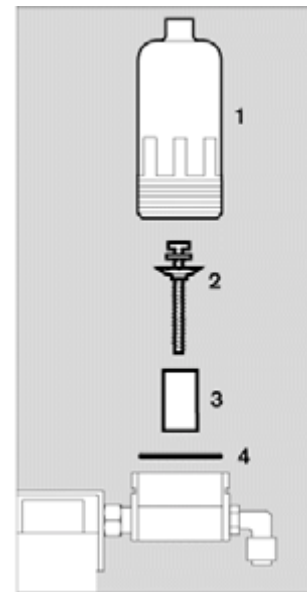

Fig. 9 Replacing the filter sleeve
- 1 Unscrew housing (Fig. 9/1) by hand.
- 2 Unscrew clasp nut (Fig. 9/2).
- 3 Remove filter sleeve (Fig. 9/3) and replace with new one.
- 4 Tighten clasp nut (Fig. 9/2).
- 5 Remove O-ring (Fig. 9/4) from housing and replace it with a new one.
- 6 Tighten housing (Fig. 9/1) by hand.